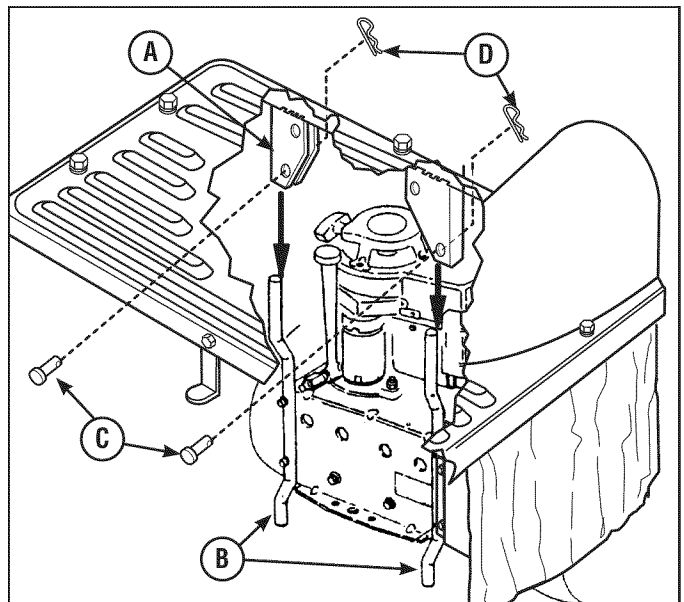

Figure 8
1. Position bagger frame brackets (A, Figure 8) onto bumper posts (B).
2. Insert clevis pins (C) through bottom holes on each side of bagger frame brackets and secure with hairpins (D).